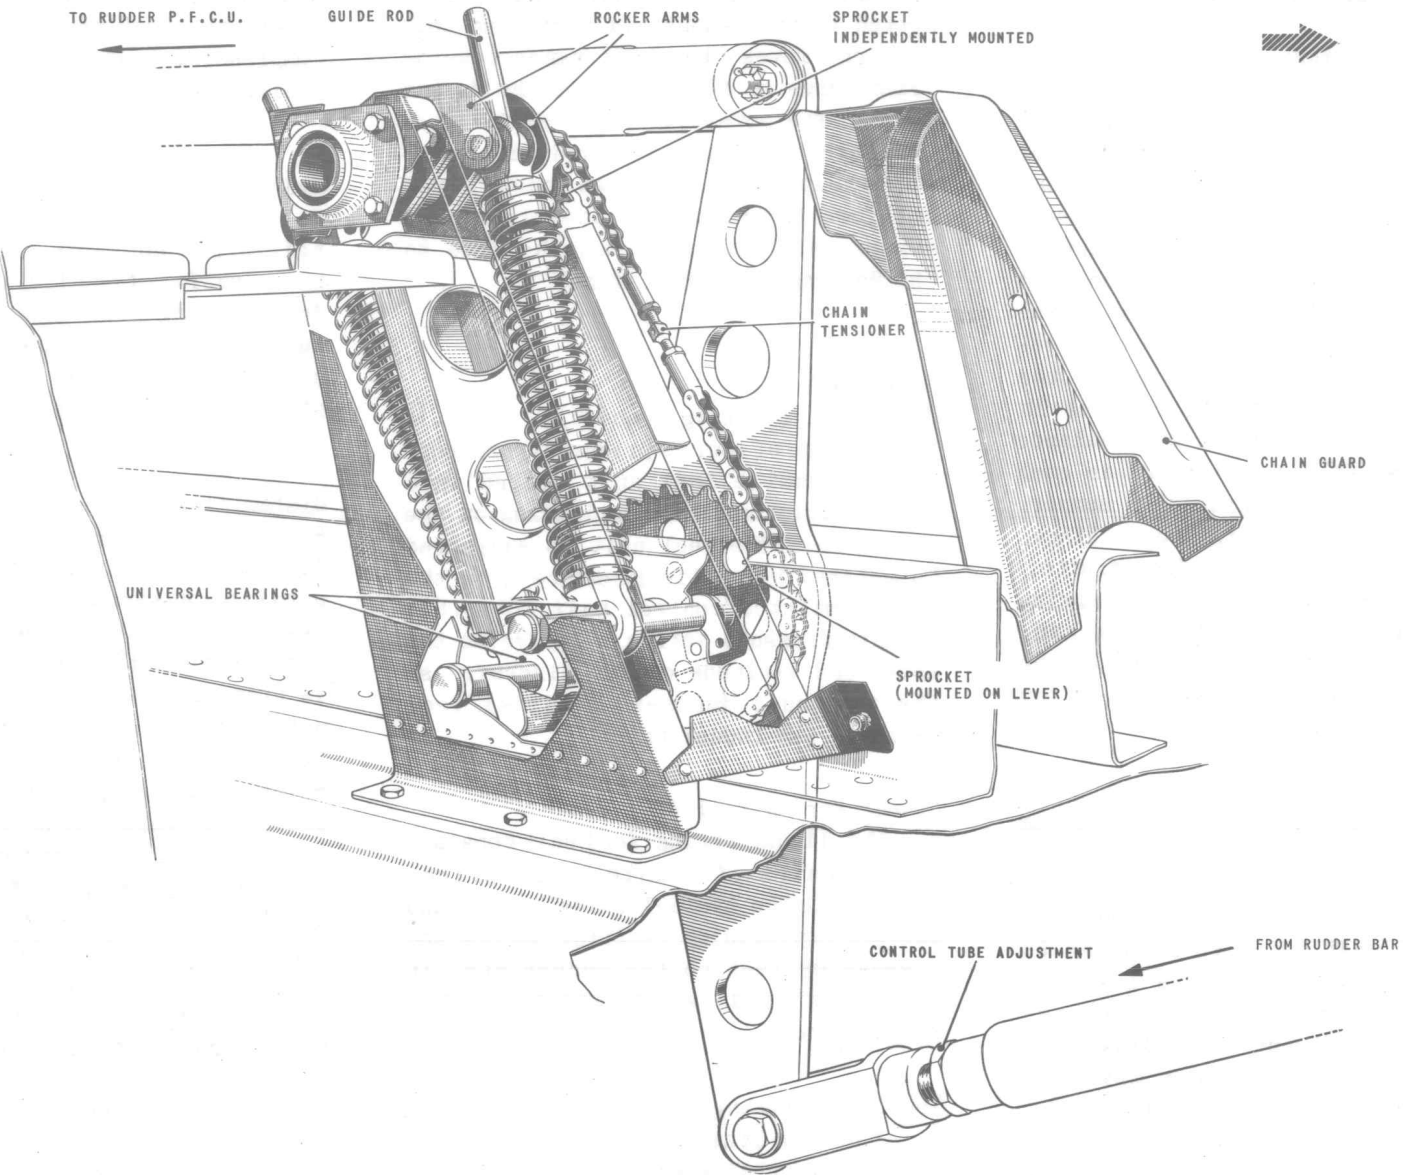

FIG.2. NON-LINEAR SPRING FEEL MECHANISM
1. The rudder is moved by a p.f.c.u. which is controlled through a rod-and-lever system connected to the rudder pedals for normal rudder operation; through an electro-hydraulically operated autostabilizer for flight control system signals, and through a cockpit switch-controlled, electrically-operated, actuator for out-of-trim corrections. Inertia forces, set up in the control run due to rapid changes in forward speed, are off-set by a balance weight fitted to the port pedal in each rudder bar assembly. A hydraulic damper, which also constitutes the upper hinge, damps any tendency toward rudder flutter. Artificial feel is provided by a spring feel unit and a combined spring-and-hydraulic feel unit (*fig.2 and 4*), the latter being subject to pressure from the feel simulator.
Non-linear spring feel (fig.2)